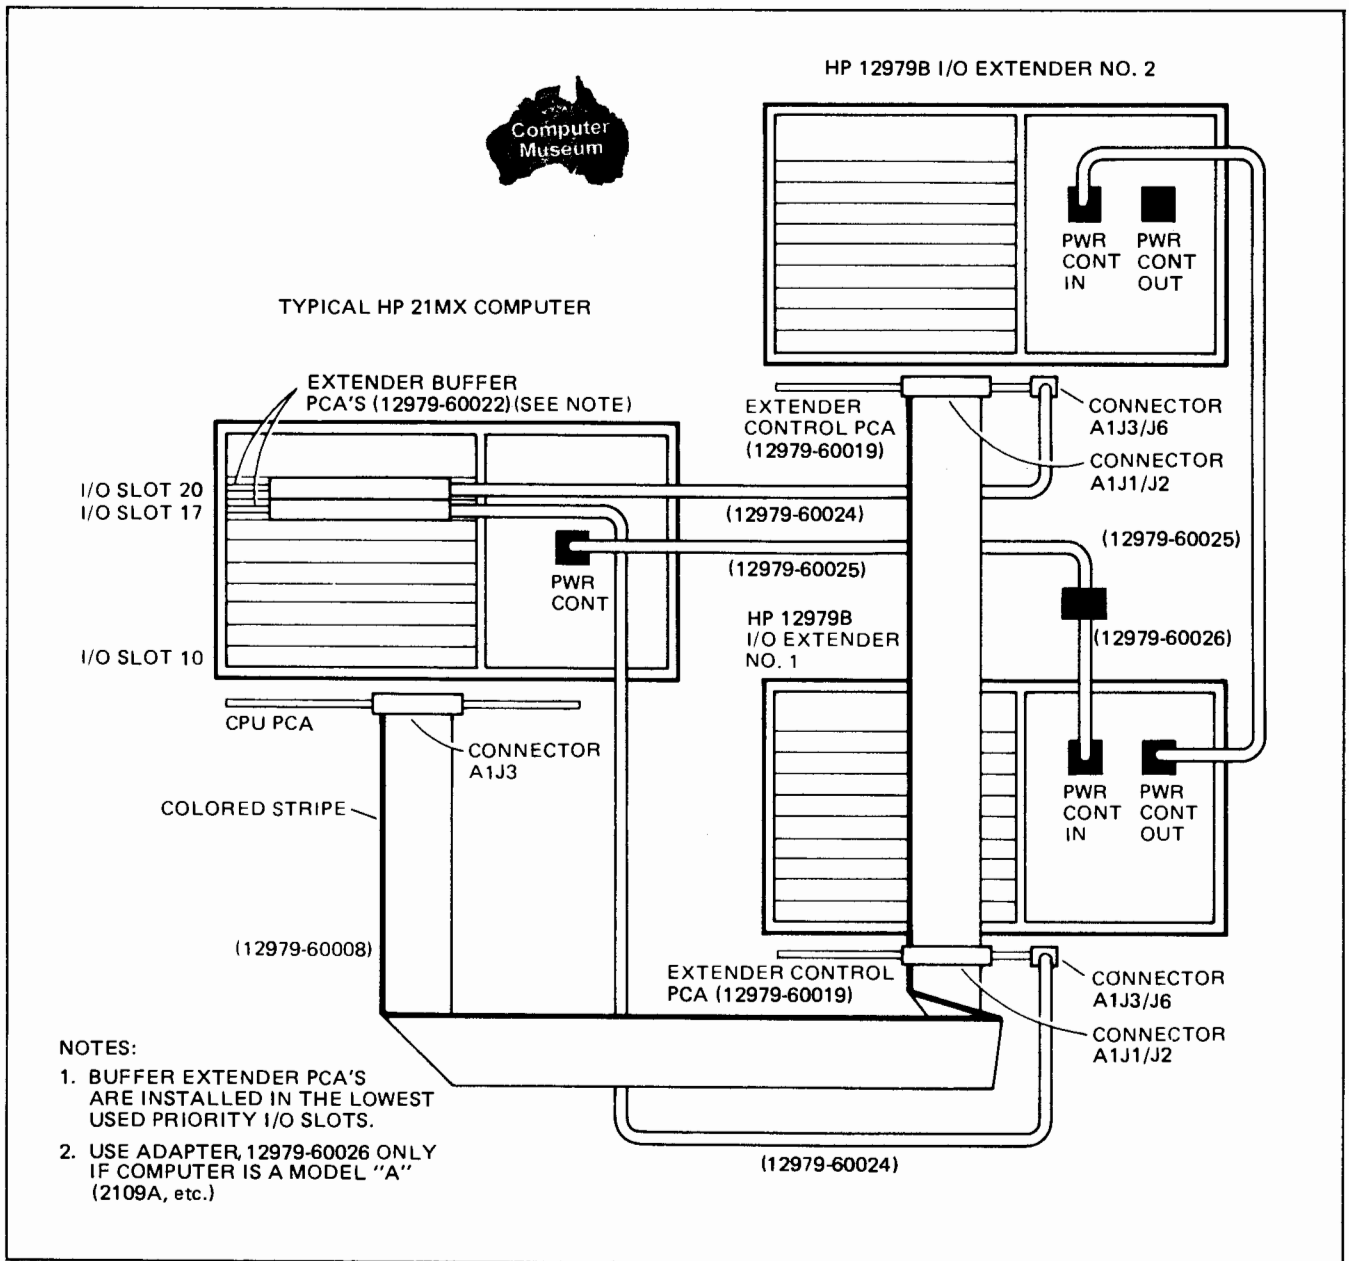

Figure 1-9. Dual I/O Extenders, Interface to Processor (Rear View)
**1-24. TWO EXTENDERS; ONE COMPUTER.** As previously mentioned, two HP 12979B Extenders may be used with one computer. One I/O buffer PCA (part no. 12979-60022) is required for each extender and the PCA's are installed in the lowest I/O priority slots used in the computer. The two I/O extenders are interconnected with the computer as shown in figure 1-9.
To configure the system as shown in figure 1-9, perform the installation procedure given in paragraph 1-21, steps a through w, but do not modify the three-connector I/O extension cable at step s. Instead, connect the third connector either to connector A1J1 (Port A) or to A1J2 (Port B) of the extender control PCA in the second I/O extender.